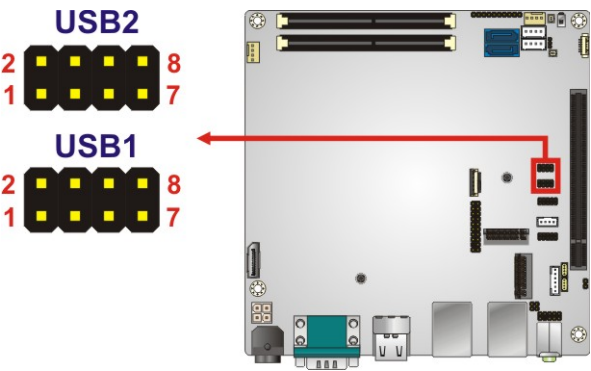

Figure 3-29: USB 2.0 Connector Locations
- CN Location: See Figure 3-29